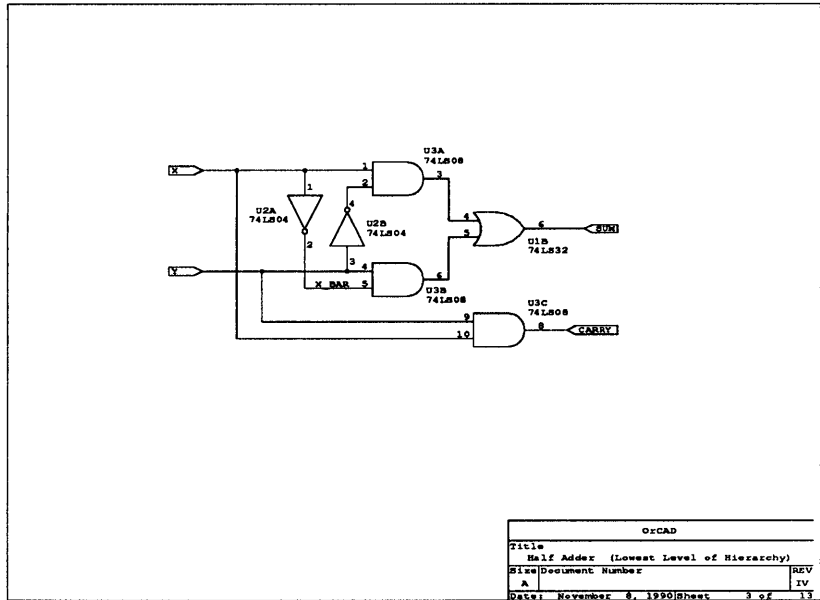

Figure 8-11. HALFADDA.SCH worksheet.
6. Now, run **Create Bill of Materials** by selecting **Create Bill of Materials and Execute**. To examine the output text file, use **Edit File**. Figure 8-11 shows the Bill of Materials stored in the text file **CMOSCPU.BOM**.